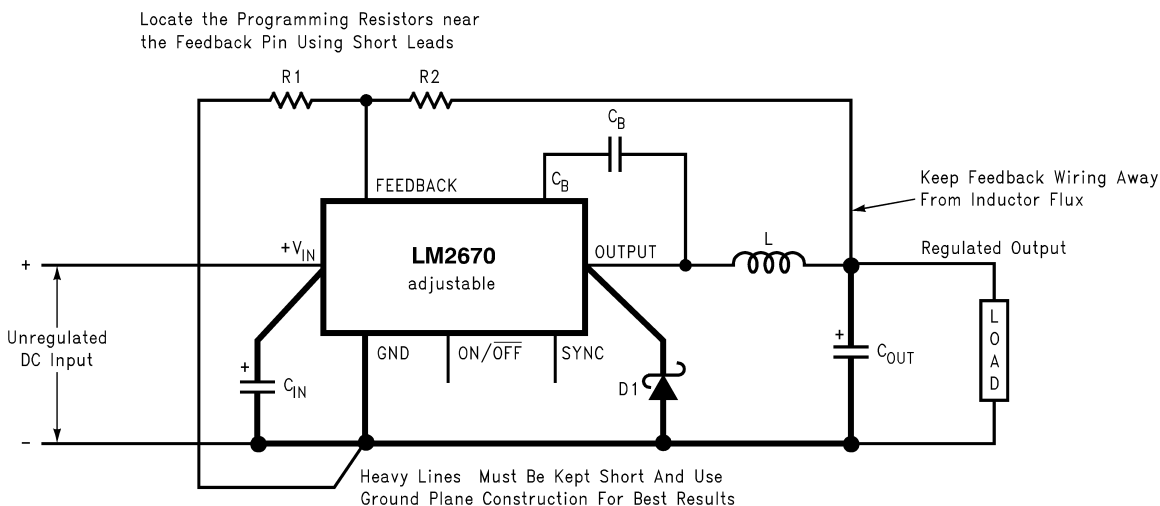

Figure 20. Basic circuit for adjustable output voltage applications
Step 2: Select an LM2670S-ADJEP. To set the output voltage to 14.9V two resistors need to be chosen (R_1 and R_2 in Figure 20). For the adjustable device the output voltage is set by the following relationship: